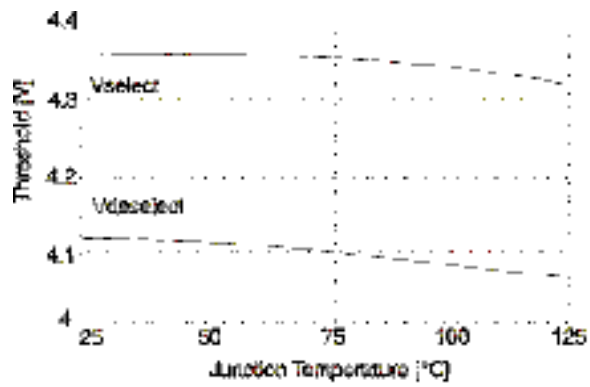

Figure 14. Threshold vs. Temperature
**Thresholds vs. Temperature.** Figure 14 shows the regulator select/deselect threshold variation up to the maximum rated junction temperature. The overall 100°C change in junction temperature causes a 30mV variation in the select threshold voltage (regulator enable). The deselect threshold level varies about 50mV over the 100°C change in junction temperature. This results in the built-in hysteresis having minimal variation over the entire operating junction temperature range.